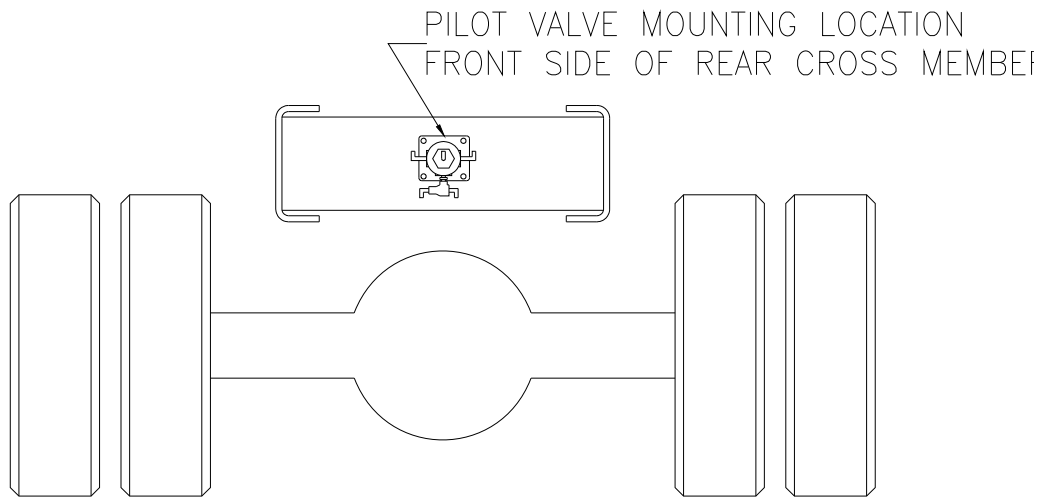

Figure 3
- 1) Find a convenient spot on the back of the tractor chassis, (typically on the rear cross member) close to the height control valve (suspension leveling valve), to mount the pilot valve. Use the ¼" bolts, flat washers and lock nuts supplied with the pilot valve. (See figure 3)